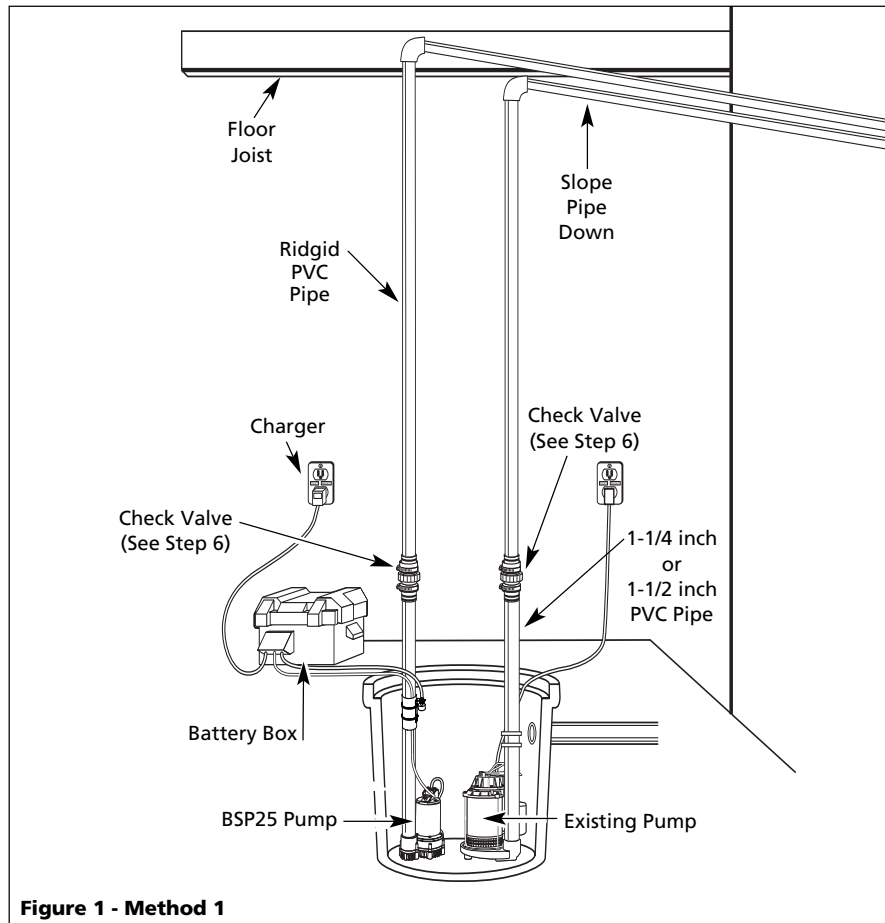

Figure 1 - Method 1
**NOTE:** Check valves can be placed directly in the pump discharge if desired. However, for ease of disassembly, it is recommended that check valves be placed above the sump as shown in Figure 1.